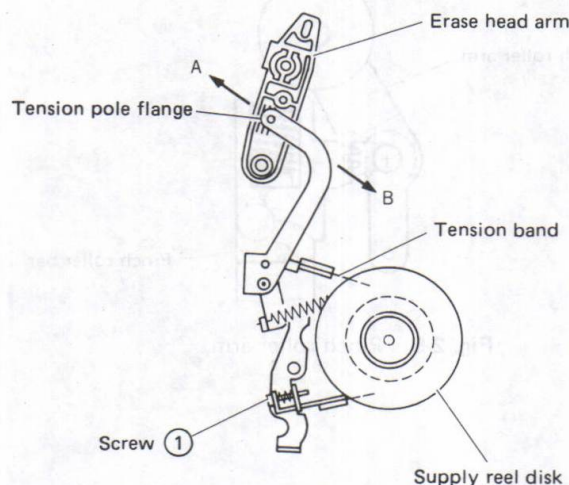

Fig. 2-11 Tension pole
2. As shown in Fig. 2-11, three lines are marked on the full erase head arm. Turn screw (1) to align the edge of the tension pole flange with the outermost of the three lines. Turn the screw clockwise to shift the tension pole in direction A and counter-clockwise for direction B.
4. After adjustment, eject cassette and apply screw sealant to screw (1).